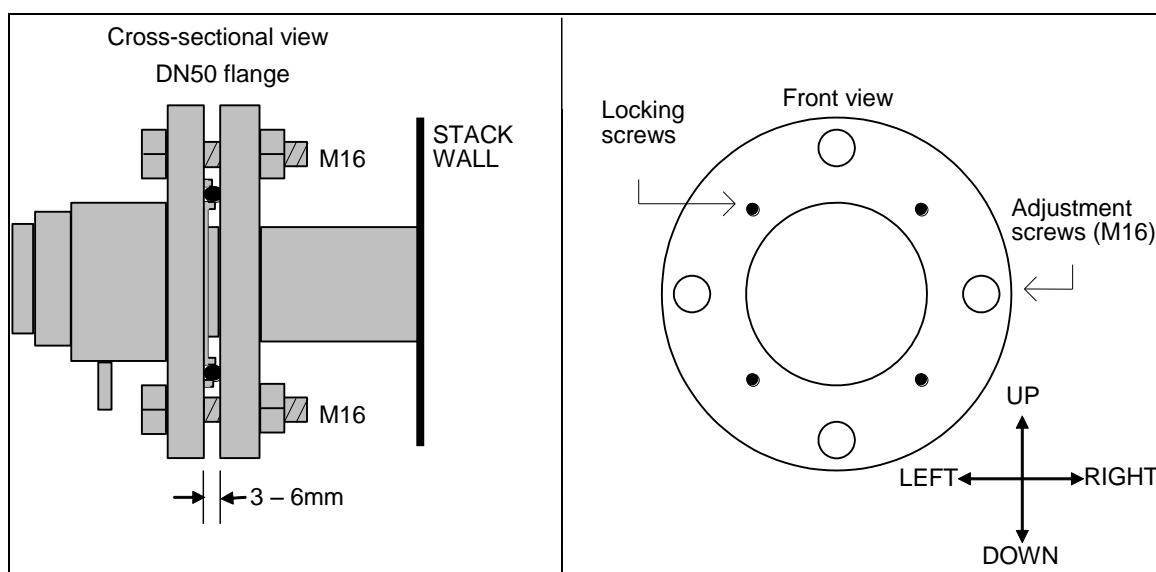

Figure 3-3: Alignment mechanism details
1. Install transmitter alignment/purging flange (5) onto the process flange (12) with the large O-ring and 4 pcs. M16 x 60 bolts (ref. Figure 3-3). Grease threads of M16 bolts with included PBC grease and fasten using nuts and washers supplied. All 4 bolts must be tightened firmly to compress the large O-ring. Use the gap gauge (were available) to set the initial gap to 6mm all around the flange. This assures a uniform and minimum satisfactory compression of the O-ring.
3. Put the window adapter ring (4) on the alignment unit. Make sure that the O-ring on the alignment unit is tight and greased (note, do **not** use the included PBC grease).
5. Affix an O-ring (not greased) to the adapter ring and connect the transmitter unit to the alignment unit. The guiding pin on the adapter ring must fit the hole in the transmitter window. Tighten the transmitter-mounting nut (2), whilst supporting the transmitter unit. Please note after fully tightening the transmitter-mounting nut, do not turn the transmitter unit anticlockwise, as such action can break the thread locking of the TU mechanical parts. If it is necessary to rotate the transmitter unit, first loosen the transmitter mounting nut, then rotate the transmitter unit. Re-tighten the nut again whilst supporting the TU. Please note it is recommended that two people install the TU, one to support the TU whilst the other tightens the mounting nut.
2. Use an IR-card to locate the laser beam on the receiver side. The spot image is hard to detect in daylight - using a black plastic bag for cover will help. If the laser beam cannot be detected, loosen the adjustment screws shown in Figure 3-3 on the transmitter unit and move it carefully from side to side and up and down to locate the laser beam using the IR card. (You will need two people!)
Please note that in order to move the RU field view axis to left direction (see Figure 3.3) one should use the following procedure.
5. For initial adjustment, loosen the adjustment screws shown in Figure 3-3 on the transmitter unit purging flange and move it carefully from side to side and up and down to locate the laser beam in the receiver hole/target window (you may need two people). Always hold and support the transmitter unit when tightening the locking screws and the adjustment screw on the transmitter unit side.
3. Locate the laser beam on the transmitter side target window. Loosen the adjustment screws shown in Figure 3-3 on the receiver unit purging flange and move it carefully (following the procedure described above) from side to side and up and down to locate the laser beam in the transmitter target (you may need two people).